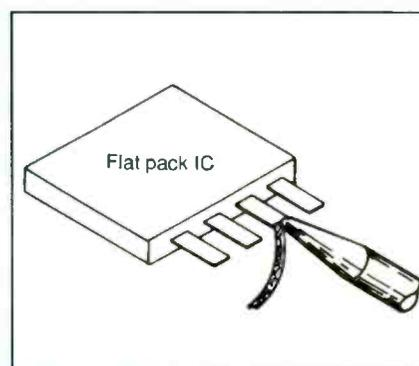

Figure 5. Install the new flat pack over the print pattern and solder one pin only.
6. Install the new flat pack over the print pattern and solder one pin only (Figure 5). Readjust the position of the flatpack as necessary, assuring that all pins are in line and in contact with the foil.